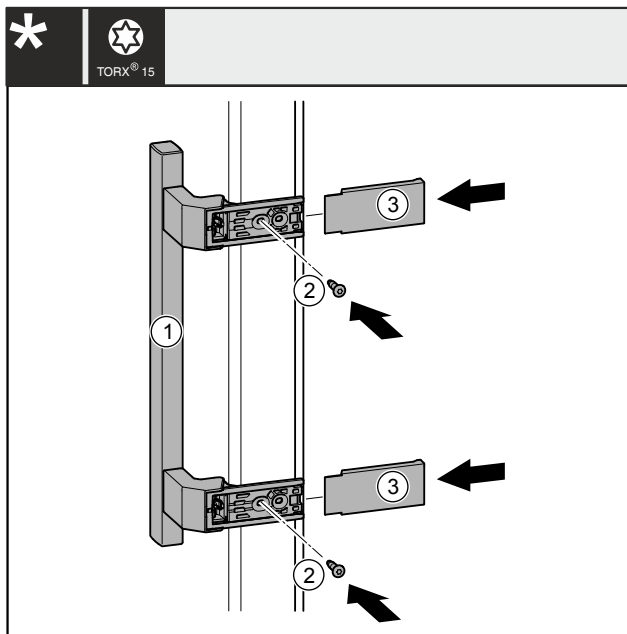

Fig. 42
- ▶ Place the handle Fig. 42 (1) on the opposite side.
- ▶ Tighten screws Fig. 42 (2) with screwdriver.
- ▶ Position the covers Fig. 42 (3) on the side and slide them on so that they click into place.